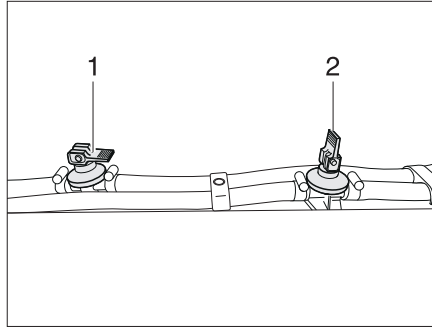

Fig. 343 Drain cock
- Open all drain cocks. To do so, set the rocking lever (in Fig. 343,2) in a vertical position.